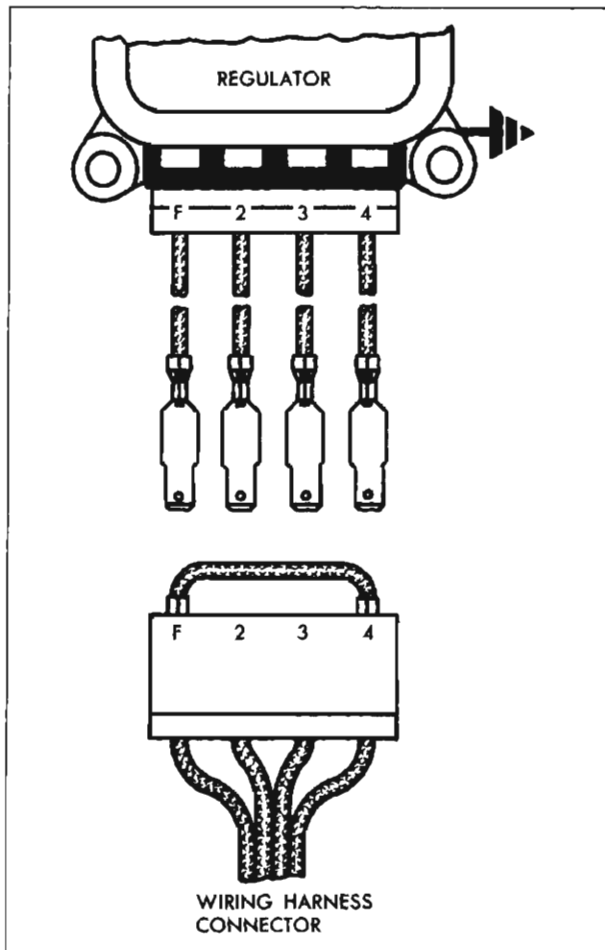

Fig. 7—Checking Indicator Lamp Circuit
4. If the lamp comes on, connect the jumper as shown in Figure 7.